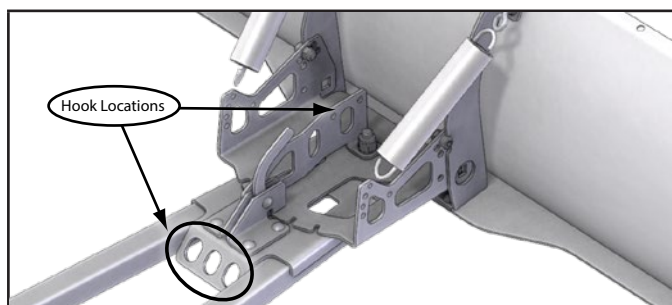
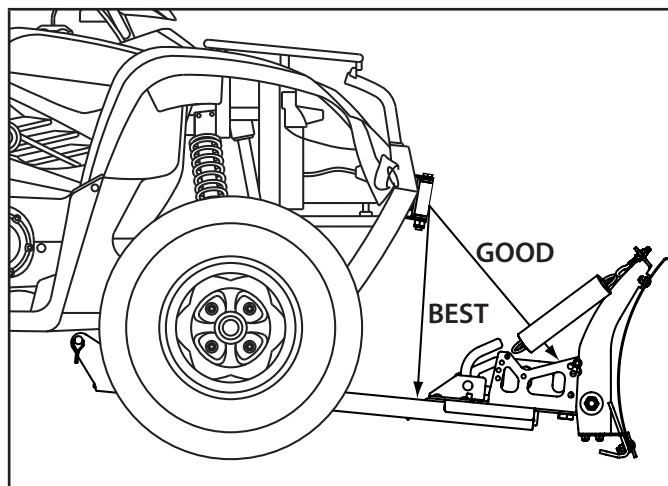

Figure 13 - Hook Attaching Points
Figure 14 - Winch Line Angle
12. Attach winch hook to one of 2 locations. See Figure 13. Figure 14 shows the best winch line angle. Use this to determine which attachment point to use.